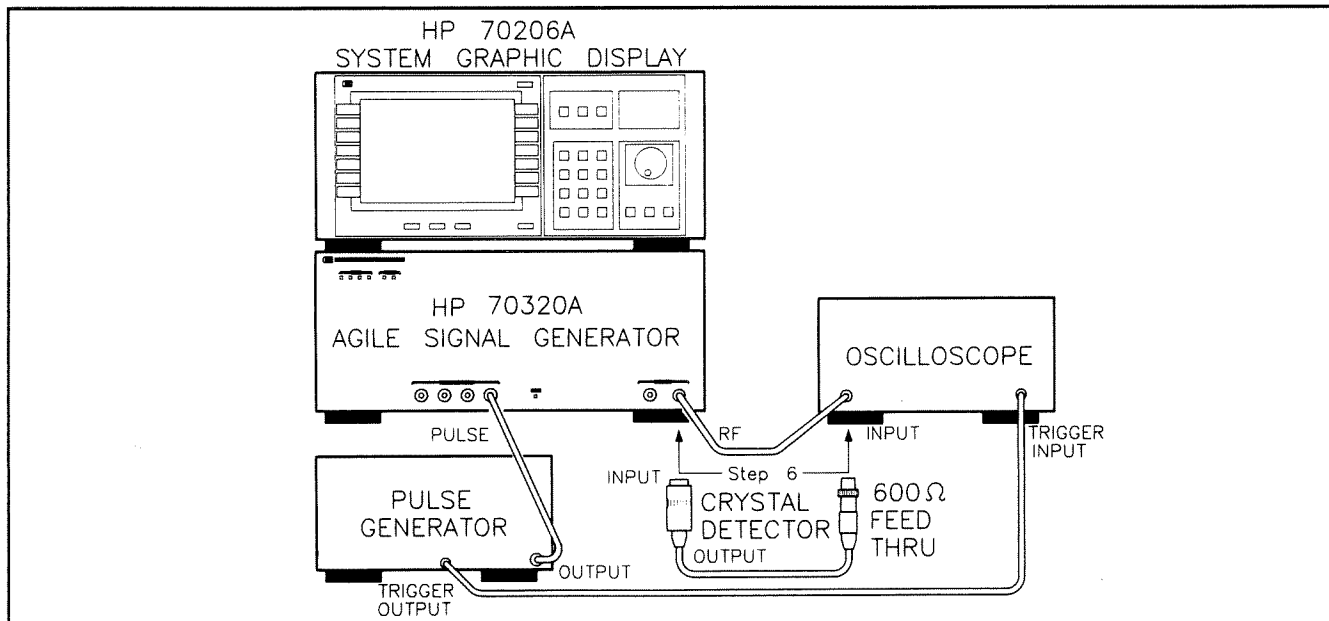

Figure 3-14. Pulse Modulation Test Setup
1. Connect the equipment as shown in figure 3-14.
- Connect the the crystal detector input to the Signal Generator's OUTPUT connector. Connect the feed-thru termination to the output of the detector then connect the output of the 600 Ω feed-thru to the oscilloscope's input. (Refer to figure 3-14.)
10. Remove the crystal detector from the Signal Generator's OUTPUTS RF and connect the OUTPUTS RF to the spectrum analyzer's input. (The spectrum analyzer is not shown in figure 3-14.)